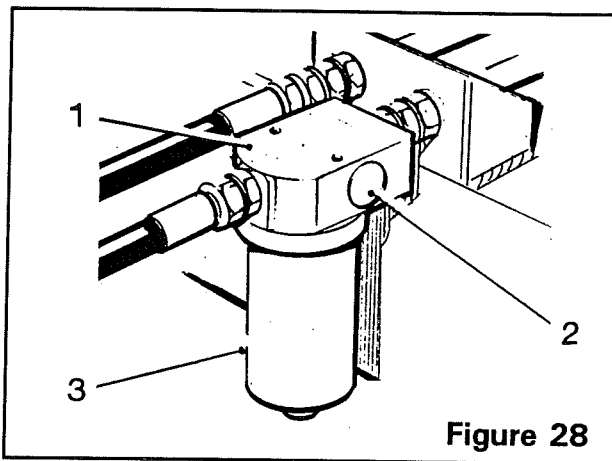
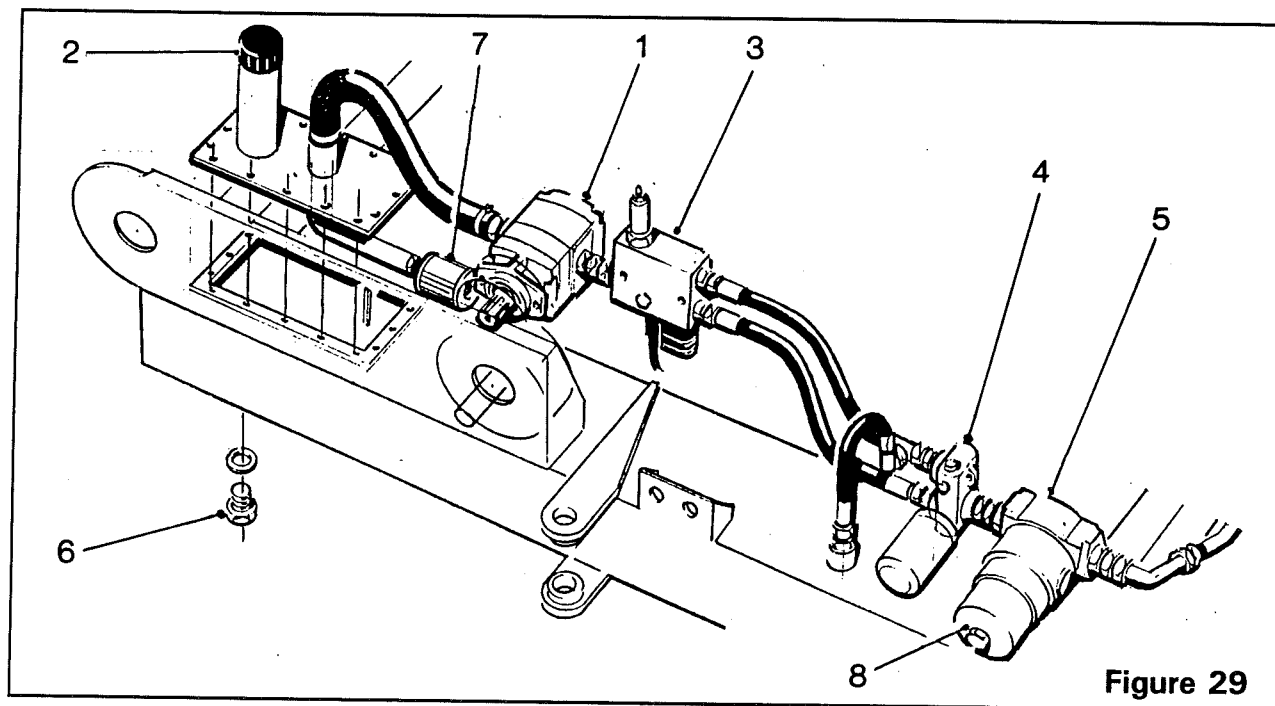

Figure 28
Figure 29
The hydraulic oil to operate the rams, discharge elevator, picking table and C'elevator motors is supplied directly from the tractor. Control for the hydraulic system is provided electronically from the in-cab control box and the harvester mounted control box. The only item requiring maintenance is the pressure line filter (item 1, figure 28). When the indicator (item 2, figure 28) is pointing to the red segment, the element (item 3, figure 28) will need to be replaced. To replace the element, simply unscrew it from the bottom of the filter assembly.
The hydraulic pump (item 1, figure 29) produces 21 gallons/minute flow rate at 540rpm PTO speed. The oil reservoir is integral within the front and LH side frame members of the main frame and contains 32 gallons of hydraulic oil (**Nuto 46 Centistroke Oil**). The level is checked by the dipstick fitted within the filler/breather unit (item 2, figure 29) mounted on the front frame beam. The oil level must never be allowed to drop below the red mark.
Pressurised oil passes through the system relief valve (item 3, figure 29) to the motorised flow divider (item 4, figure 29) which controls the speed of the separator unit motors. From the flow divider, the oil passes through the pressure filter (item 5, figure 29) and then travels to the reversing valve unit (item 1, figure 30). The reversing valve unit is designed to automatically reverse the separator unit roller direction for a few revolutions to release any object which cannot pass between the rollers, and then return the drive to the normal contra-rotating direction. The return oil from the separator unit motors passes back through the reversing valve unit and then returns to the main frame reservoir. The only items requiring maintenance are the pressure filter (item 5, figure 29) and the oil reservoir strainer (item 7, figure 29). The pressure
filter element (item 8, figure 29) should be replaced after the first 50 hours running and annually thereafter. The oil reservoir strainer (item 7, figure 29) should be removed and cleaned annually.
**WARNING:** The pressure relief valve (item 3, figure 29) is fitted to protect the hydraulic system should any major blockage occur. It is an essential safety feature preset at the factory and should never be tampered with.
A, The pressure filter element (**item 3, figure 28**) should be replaced when the indicator (**item 2, figure 28**) is pointing to the red segment. To replace the element, simply unscrew it from the bottom of the filter unit.
B, The pressure filter elements (**item 3, figure 28 and item 8, figure 29**) should be replaced after the first 50 hours running time.
C, Every 500 hours running time or annually, replace the pressure filter elements (**item 3, figure 28 and item 8, figure 29**). Drain the hydraulic oil reservoir and clean the magnetic plug (**item 6, figure 29**). Remove and clean the oil strainer (**item 7, figure 29**). Refill the hydraulic reservoir with **Nuto 46 Centistroke Oil** (32 gallons).